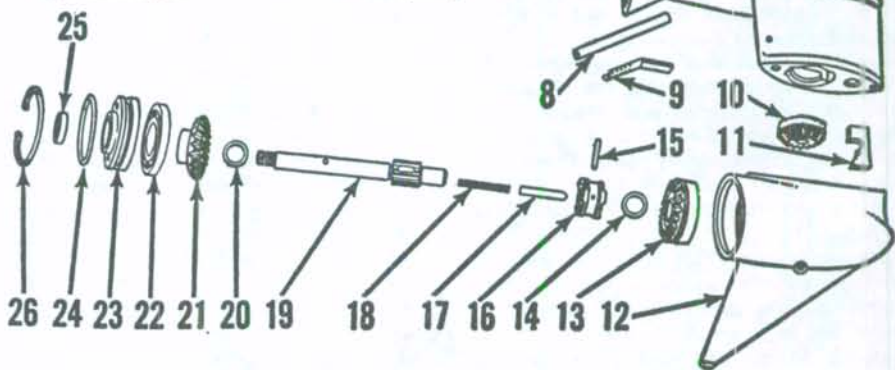

Fig. WB21—Exploded view of lower unit gearcase, drive shaft housing and associated parts.
Full Gear Shift Models: Refer to Fig. WB21. Loosen the locknut on the shift rod coupling, located behind swivel bracket below the power head. Remove the shift rod coupling turnbuckle to disconnect the shift rod; then unbolt and remove drive-shaft housing (upper gearcase) and gearcase from motor leg. Turn shift rod (1) counter-clockwise to clear the water pump housing; then disassemble and remove the water pump assembly (2 through 5).
Fig. WB21) can usually be dislodged from housing by jarring open end of housing on a block of wood. If trouble is encountered, heat gearcase slightly with a torch to loosen bearing. When installing front gear in housing, assemble bearing cage (23), without the "O" ring (24) over rear of propeller shaft; install thrust washer (14) and gear assembly (13) on front of shaft; and use the shaft as a piloted driver. Backlash and mesh position of the gears are not adjustable.